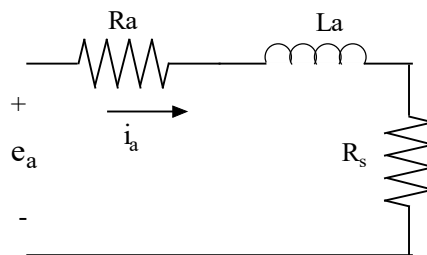

Figure 2: RL circuit
6. Compute the voltage drop across  $R_s$  and find the time constant for the R-L circuit in Figure 2.